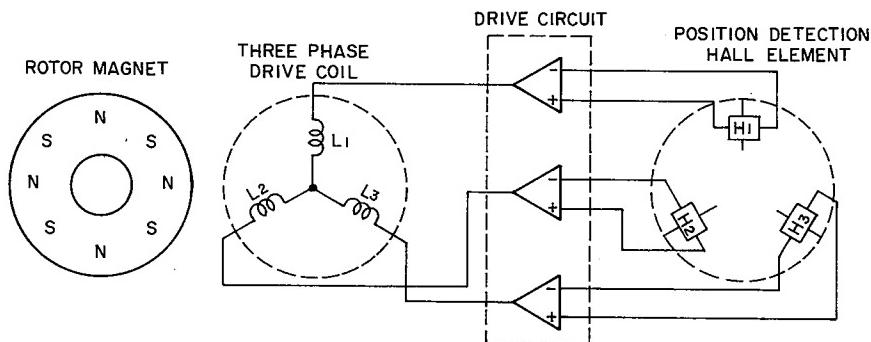

Fig. 11
- 2) Explanation of the principle of motor operation. As shown in Fig. 11, against the 8 poles of rotor magnet, 3 phase-driven-coils L1, L2 and L3, placed at electrical angle of  $120^\circ$  to each other, are connected to the Hall elements output terminals through their respective drive circuits.